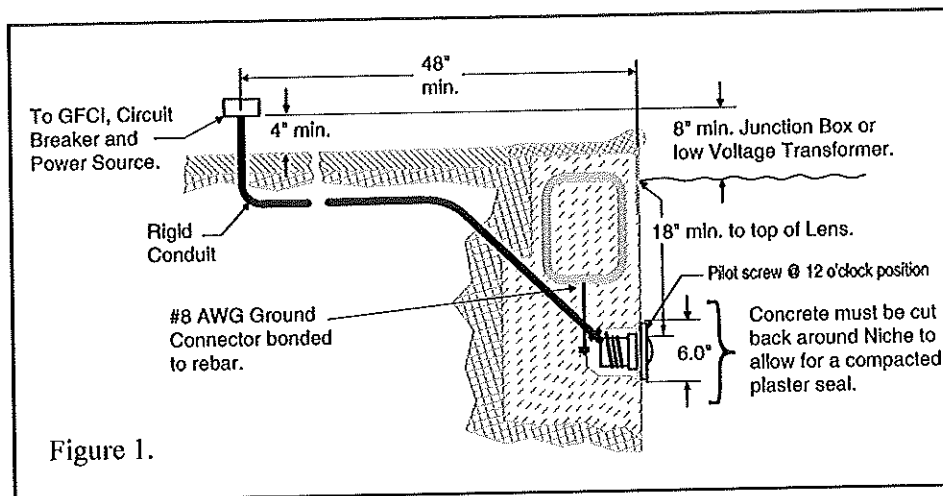

Figure 1.
A. The electrician must complete preparatory steps before light fixture is installed; see Figure 1.
- b. The Junction Box (or, for 12 volt models, the low voltage transformer) must be located at least eight (8) inches above water level, at least four (4) inches above ground level, and at least 48 inches from the edge of the pool; see Figure 1.
- c. The light fixture and all metal items within five (5) feet of the pool must be properly electrically bonded.
- d. The wet niche must be properly installed so the pilot screw hole is at the 12 o'clock position and that the top edge of the underwater light's lens is at least 18 inches below the surface of the water in the pool; see Figure 1.
- e. The wet niche must be properly electrically bonded and grounded via the No. 8 AWG ground connector located at the rear of the niche; see Figure 1.
1. Feed cord through conduit to Junction box, leaving at least four (4) feet of cord at the light fixture to coil around the light; see Figure 1. This four (4) feet of cord around the light allows the light to be serviced after the pool is filled with water.
2. Cut the cord at the Junction Box, leaving at least six (6) inches of cord to make connections.
3. Strip six (6) inches of the outer cord jacket to expose the three insulated wires. Be careful not to damage the insulation on the three (3) inner wires.
4. Connect all three (3) wires to the corresponding circuit wires in the Junction Box, and secure the Junction Box cover in place.
- b. The Junction Box (or, for 12 volt models, the low voltage transformer) must be located at least 8 inches above ground or water level, at least four (4) inches above ground level, and at least 48 inches from the edge of the pool; see Figure 1.
- d. The wet niche must be properly installed so that the top edge of the underwater light's lens is at least 18 inches below the surface of the water in the pool; see Figure 1.
5. Leave at least 4 feet of cord to coil around the light fixture; see Figure 1. This 4 feet of cord coiled around the light allows the light to be serviced after the pool is filled with water.